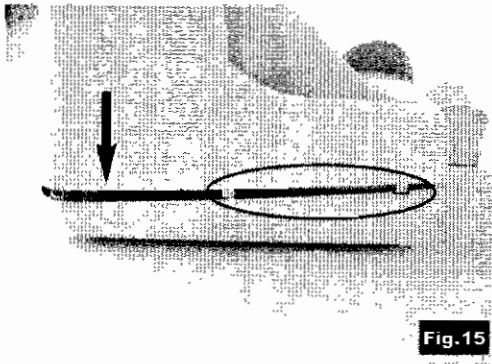

Fig.15
8. Insert the two teeth located on each side of the outer cover, in the base and lock it. See Fig.15 and 16.